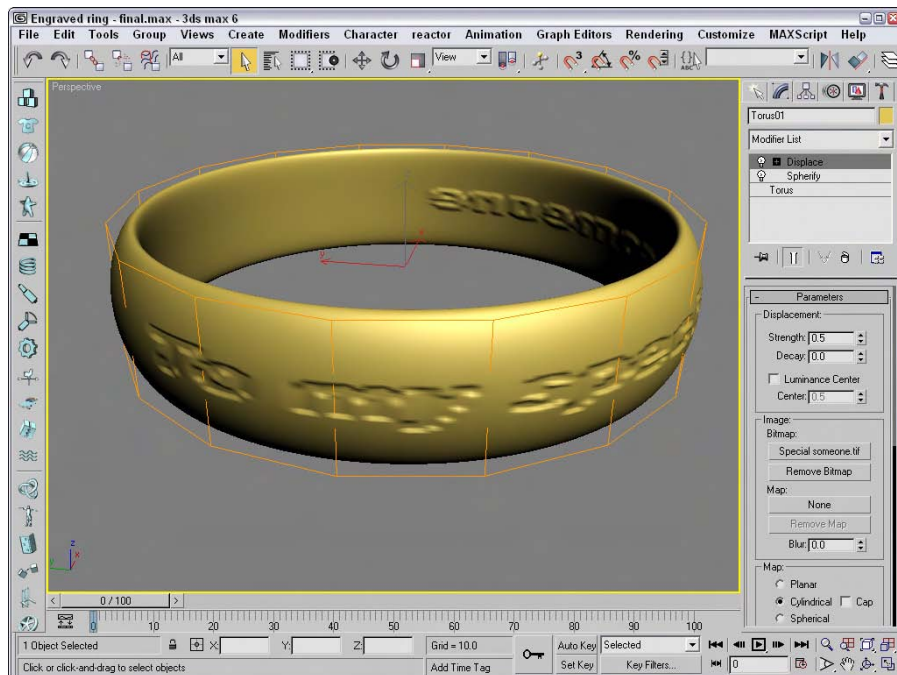

Figure 23-4: You can use the Displace modifier to indent the surface of an object.
5. Figure 23-4 shows the resulting engraved ring.